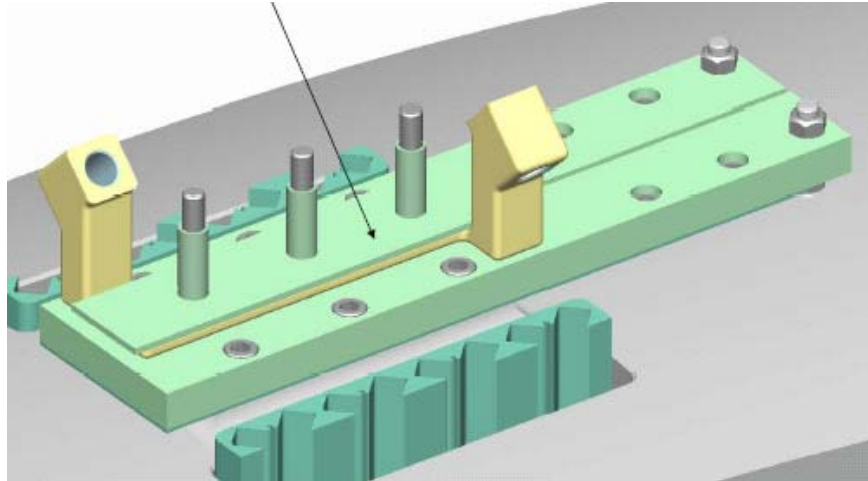
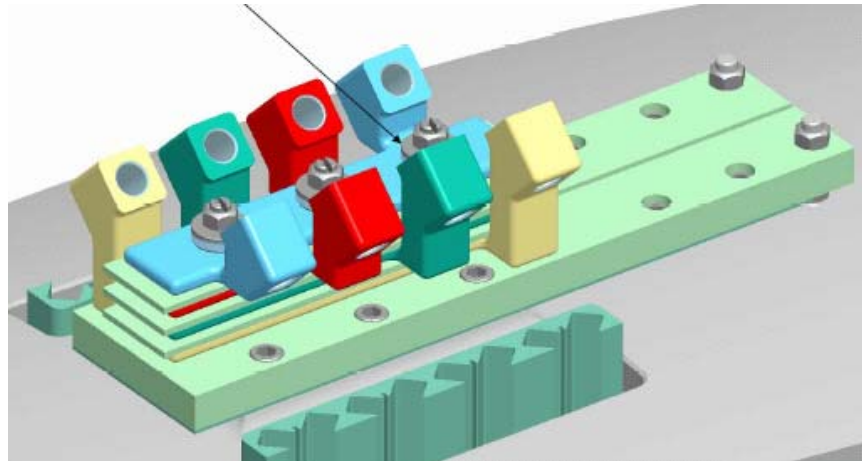

Figure 21-Jumper #1 and Insulating Plate Installed
Figure 22-Final Jumper#4 Installed and Secured
- 6.19.2.4 Begin installing the copper jumpers and insulating plates. Begin with jumper #1 then an insulating plate. Continue to alternate between jumpers and insulators until Jumper #4 has been installed. Then secure in place with Belleville washers, flat washer and nut. Use Loctite 2440 on threads per manufacturer's instructions. [Figure 21-Jumper #1 and Insulating Plate Installed and Figure 22-Final Jumper#4 Installed and Secured]